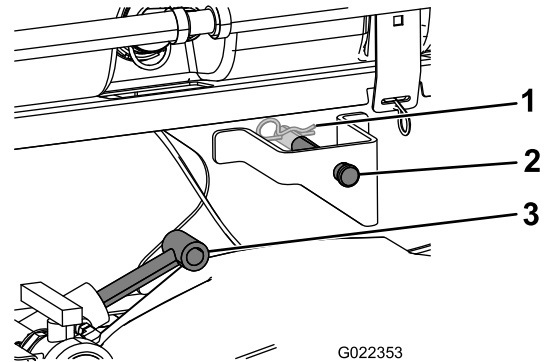

Figure 9
- Extend the lift cylinders to the brackets on the tank skid, and align the cylinder fittings with the holes in the tank skid brackets (Figure 9).